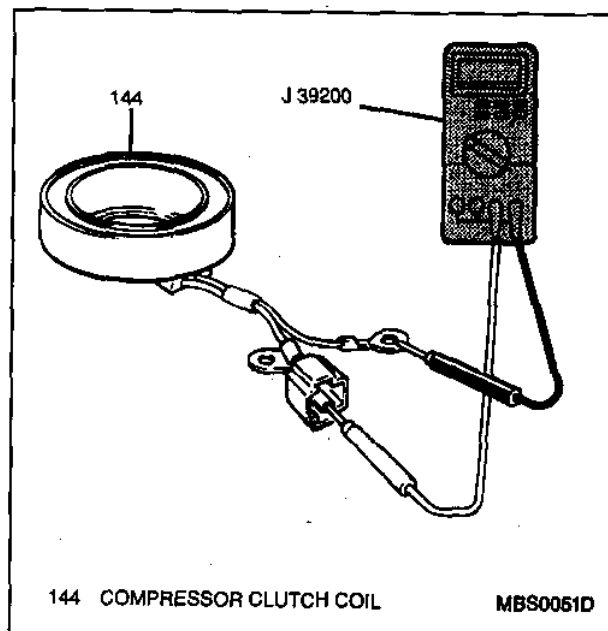

Figure 7—Inspecting A/C Compressor Clutch Coil Resistance
- Clutch coil for resistance using tool J 39200. Replace if not within specification (Figure 7).